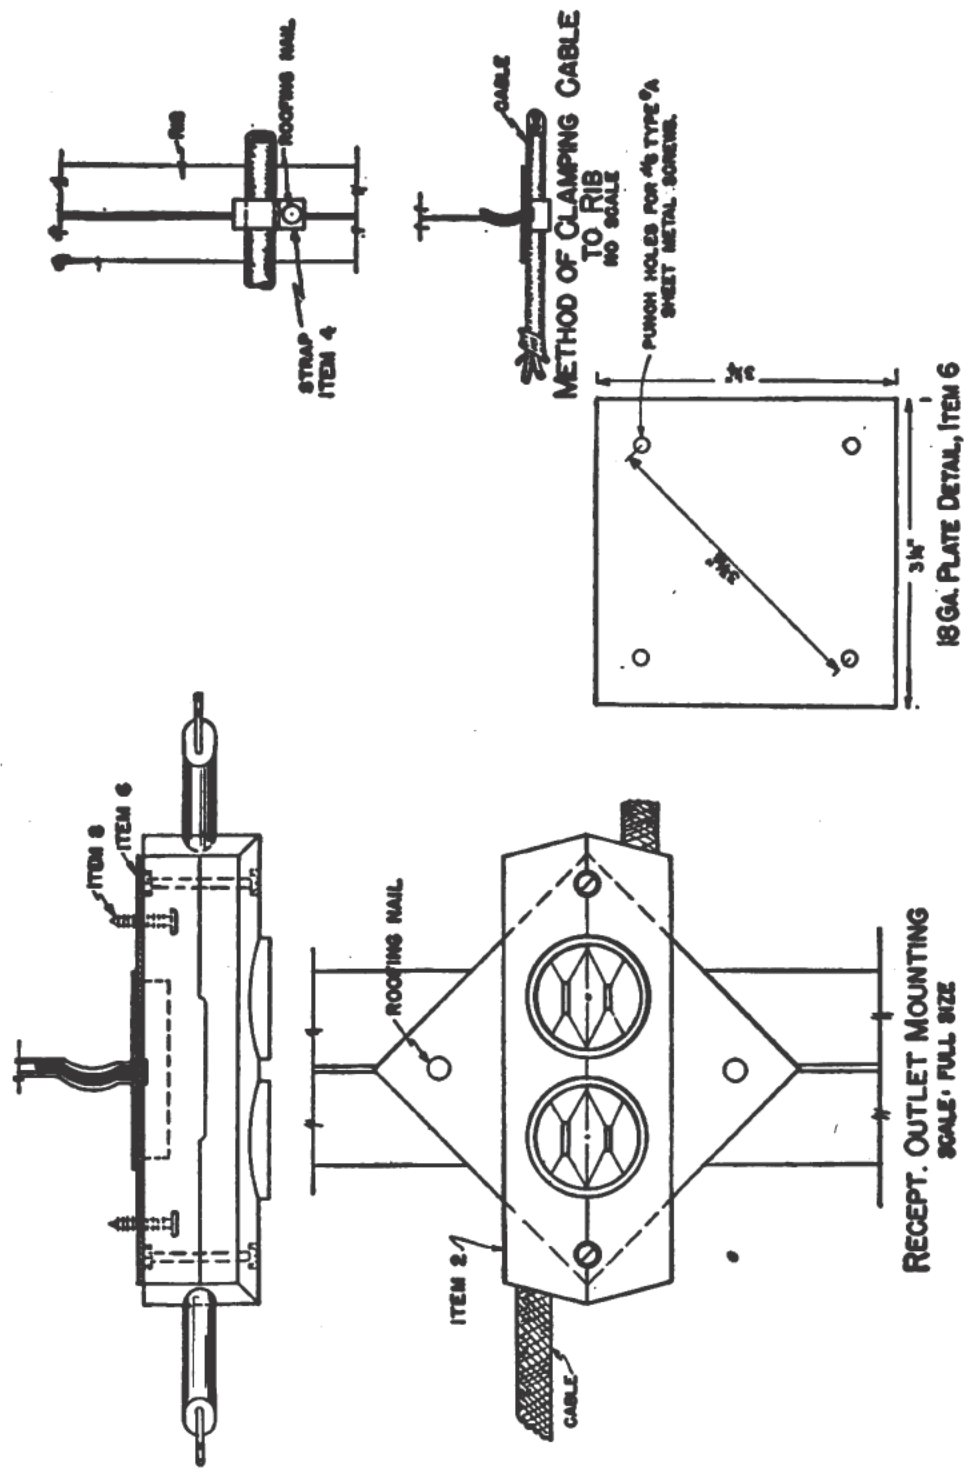

Figure 3-24.—Detail drawings from the standard receptacle assembly drawing.
The standard receptacle circuit is shown in figure 3-22. Since you may have difficulty in getting much help from the small illustration and since you already know the location of the various receptacles, let's look at the detail drawings. These are shown in figure 3-24. Notice that the method of mounting the plate (item 6), of attaching the duplex receptacle to the plate, and of clamping the cable to the wall is exactly the same as was used for installing the droplights.